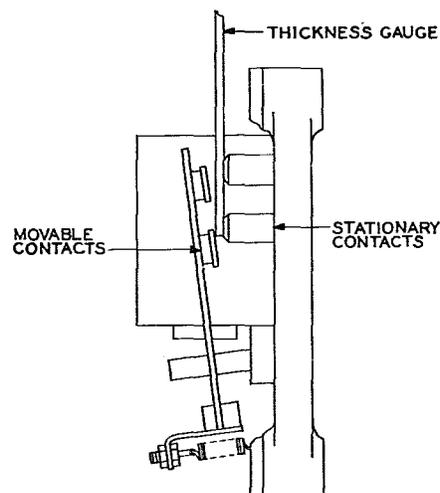

Fig. 5 - Method of Measuring Contact Gap
2.06 Contact Gap: Minimum contact gap for each type of relay shall be as listed in Table A. Use thickness gauge or scale. Where contact gaps on one side of contact spring meet requirements and it is difficult to apply gauge to the contacts on the other side of the spring, the clearance on these contacts may be assumed to be satisfactory. The contact gap should be measured by inserting the thickness gauge between the movable and stationary contacts. On B, D, E, L, KS-5635, and KS-15601 relays, the gauge shall pass between the contacts. On A, C, S, SC, and SS relays, the gauge shall be placed as shown in Fig. 5 and shall extend across at least 3/4 of the diameter of the stationary contact nearer the armature hinge before touching the movable contact.